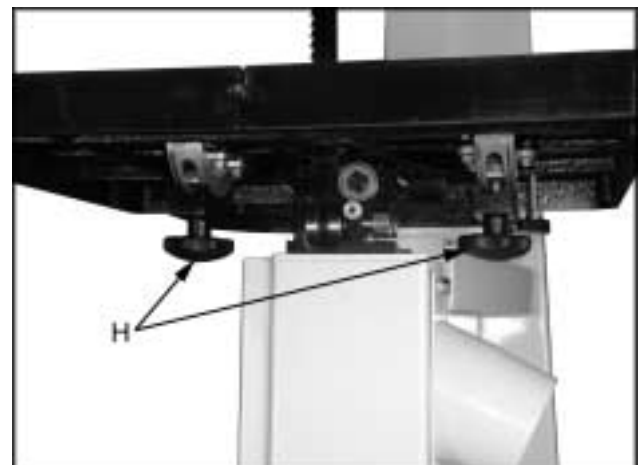

Fig. 6
3. Line up the trunnions so that the bolts feed through the trunnion support bracket. Secure the table with two lock knobs (H, Fig. 6). Reinstall the table insert and table pin.